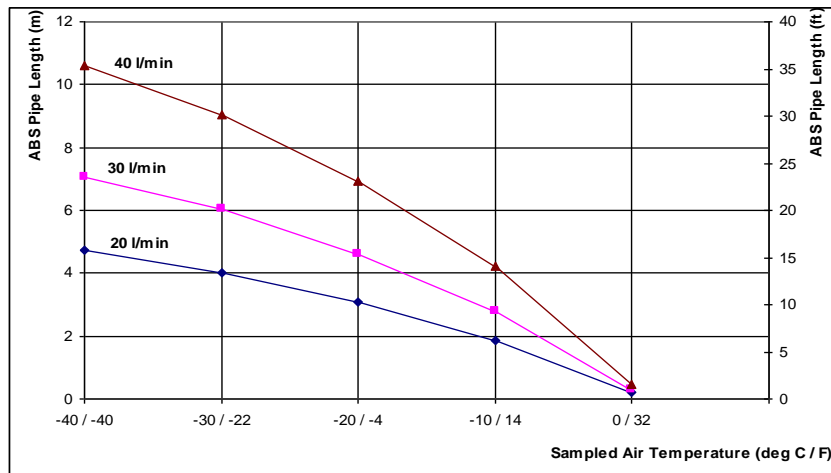

Figure 1: Estimated ABS pipe length “run” for sampled air warming
- Required length of ABS pipe “run” to increase the sampled air temperature to 0°C (32°F): 7m (23ft) - Figure 1